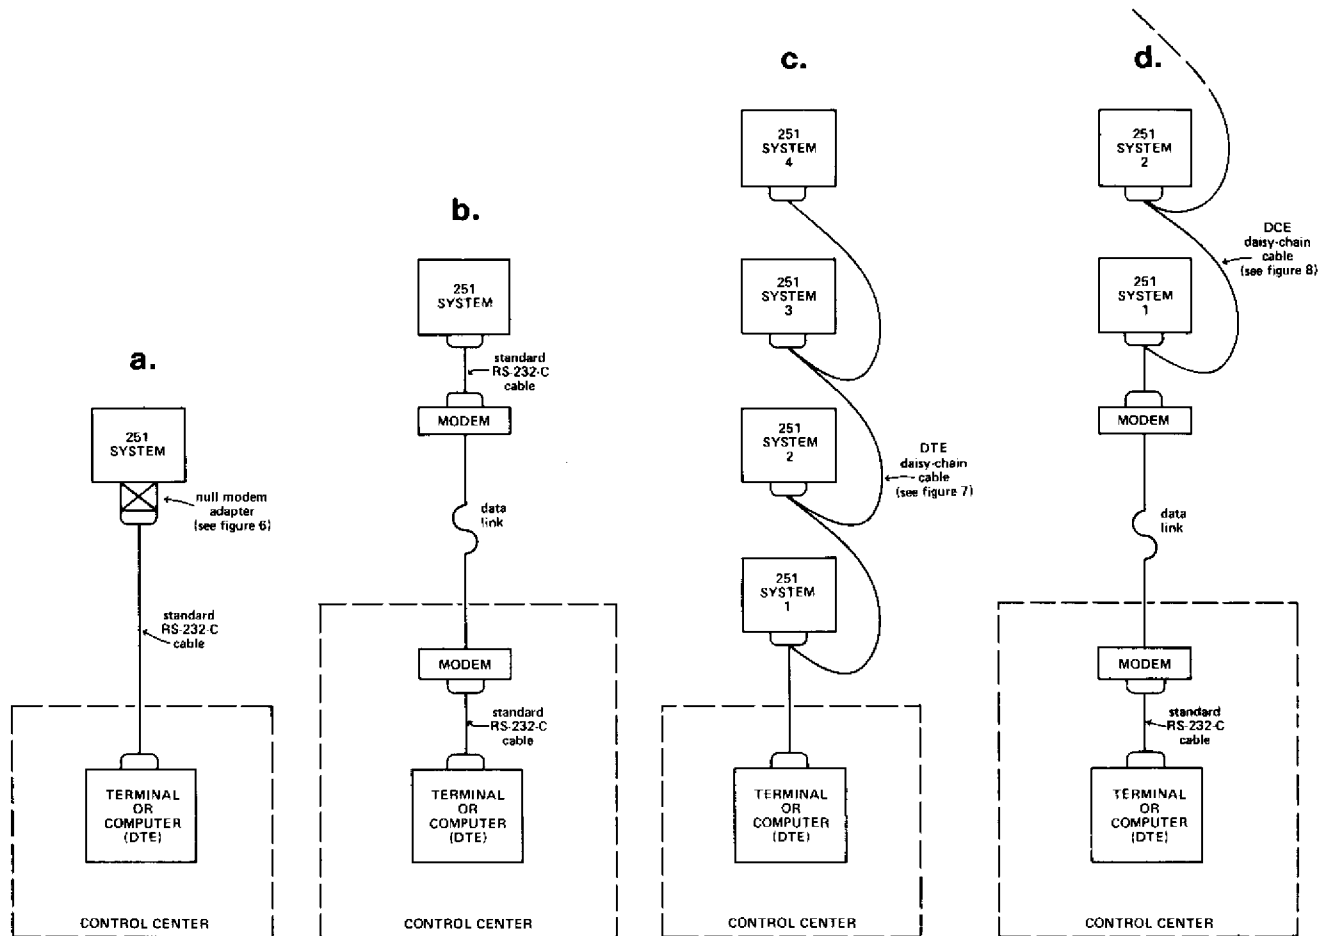

figure 5. Four remote control/status interface configurations
2.12 Figure 5 shows four possible remote control/status interface configurations. In configuration a, the control center is close enough to the 251 System to allow a direct RS-232-C connection. The maximum